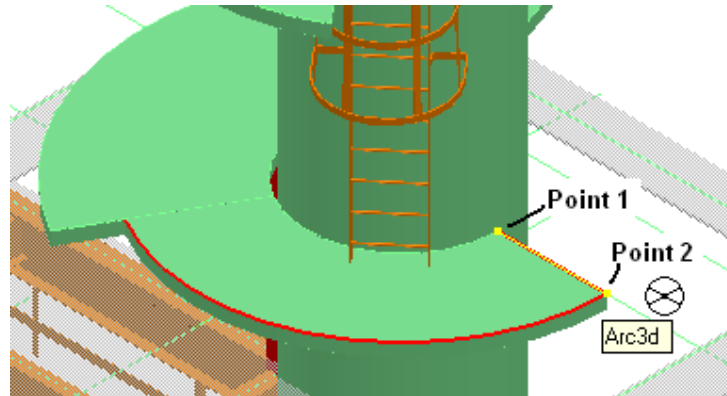

Figure 41: Handrail Path
39. Sketch the path of the handrail as shown in Figure 41.